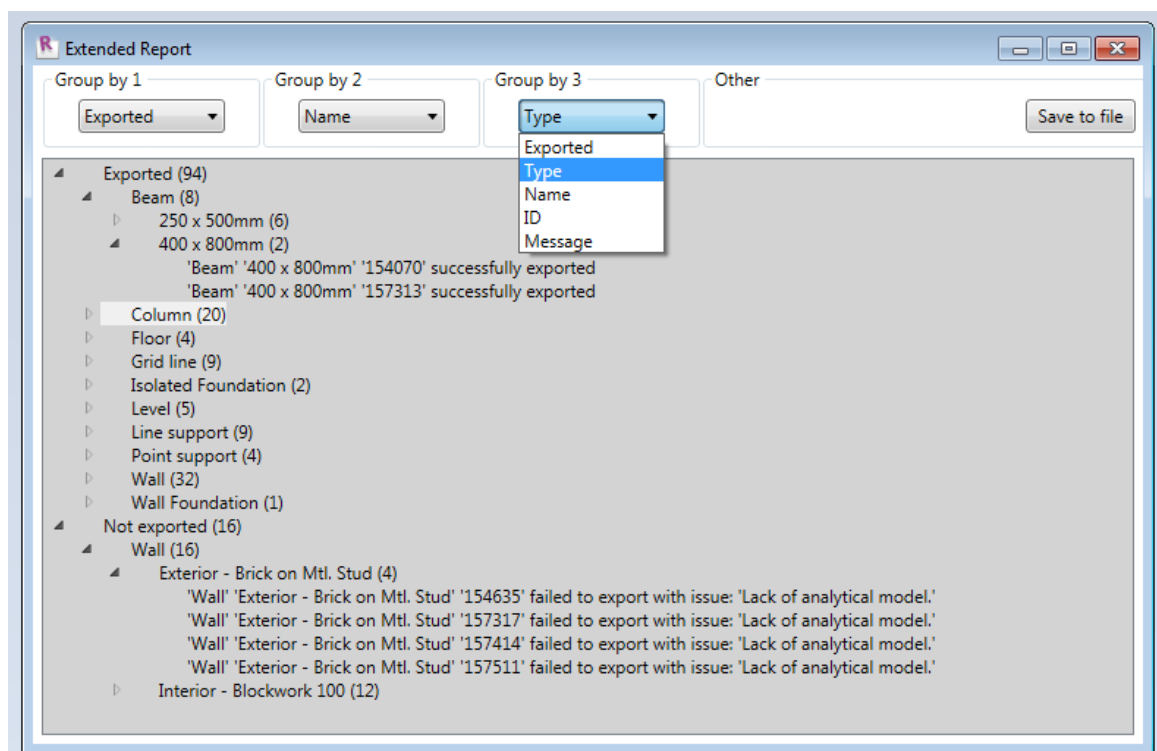

Figure III-54
Figure III-54 shows an example of how the report can be arranged. In the first group, elements are grouped by *Exported* into exported (94 elements) and not exported elements (16). Then elements are grouped by *Name*. There are 8 beams exports, 20 columns, 4 floors, 9 grid lines, etc. There are also 16 walls that were not exported. Finally, the elements are grouped by *Type*.